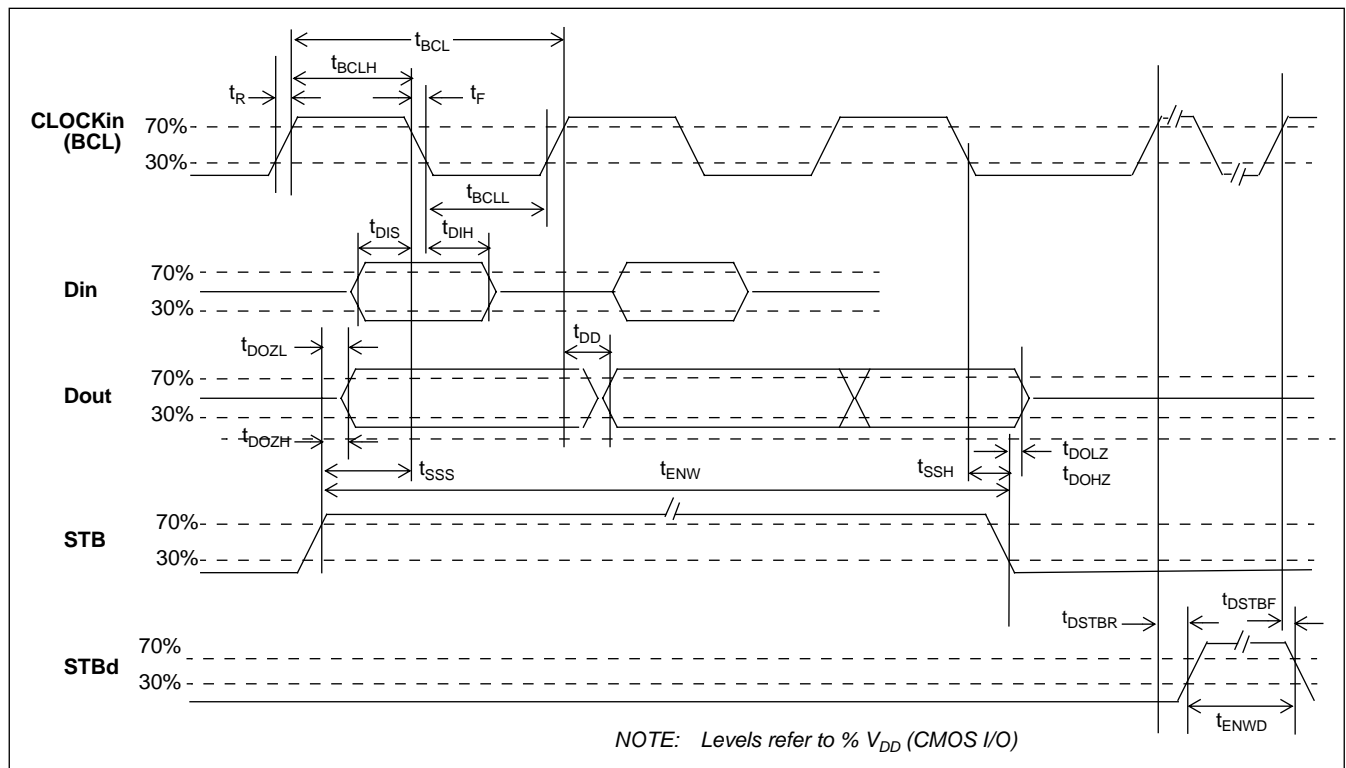

Figure 12 - SSI Synchronous Timing Diagram
**AC Electrical Characteristics† - SSI BUS Synchronous Timing (see figure 12)**